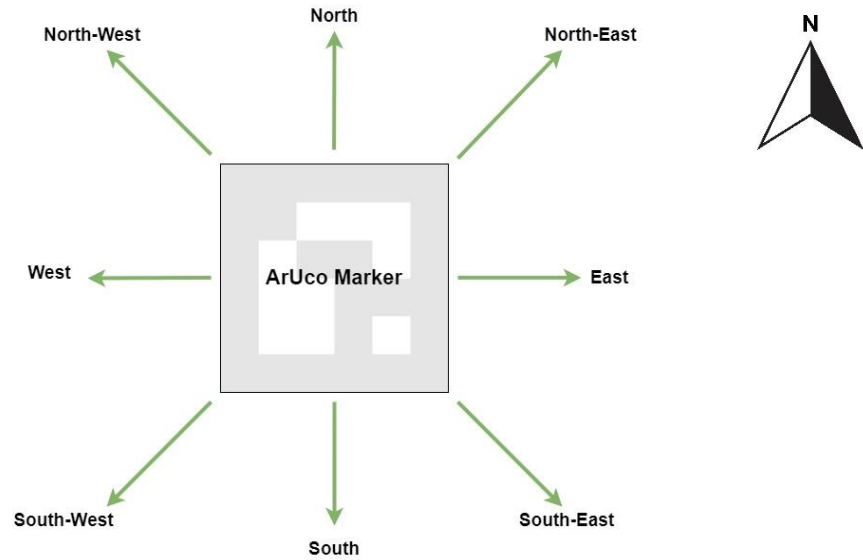

Figure 3 Directions indicate by ArUco Markers
5. The ArUco markers provide eight individual IDs for eight directions as shown in figure 3 that robot needs to move.